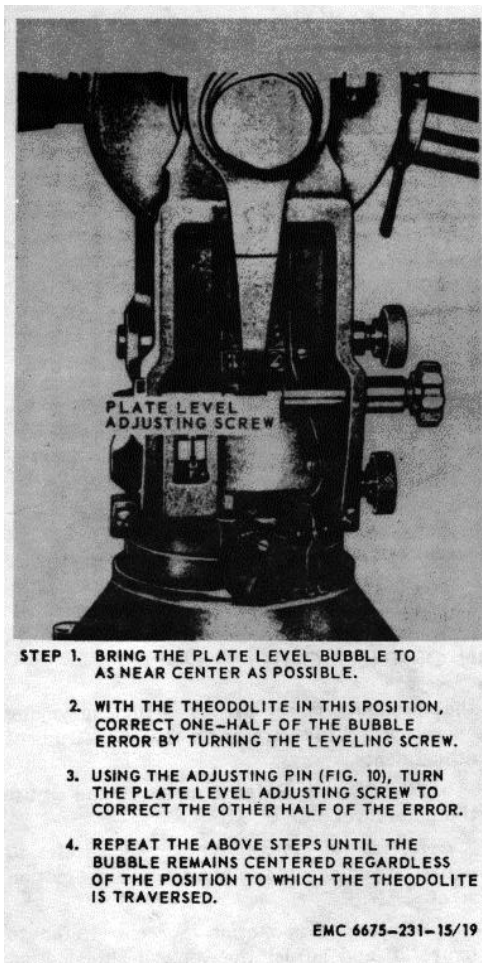

Figure 19. Plate level, adjustment.
b. *Plate Level.* Refer to figure 19 and adjust the plate level.